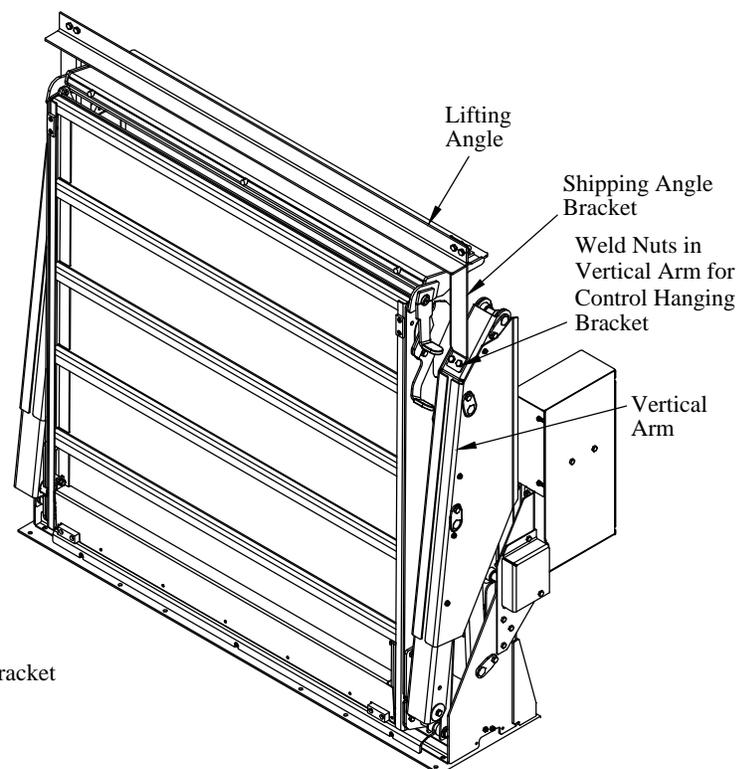

Figure 17: Lifting angle and vertical arm.
5. **Unbolt** and **Remove** the lifting angle and brackets (Figure 17). There are weld nuts inside the vertical arm.